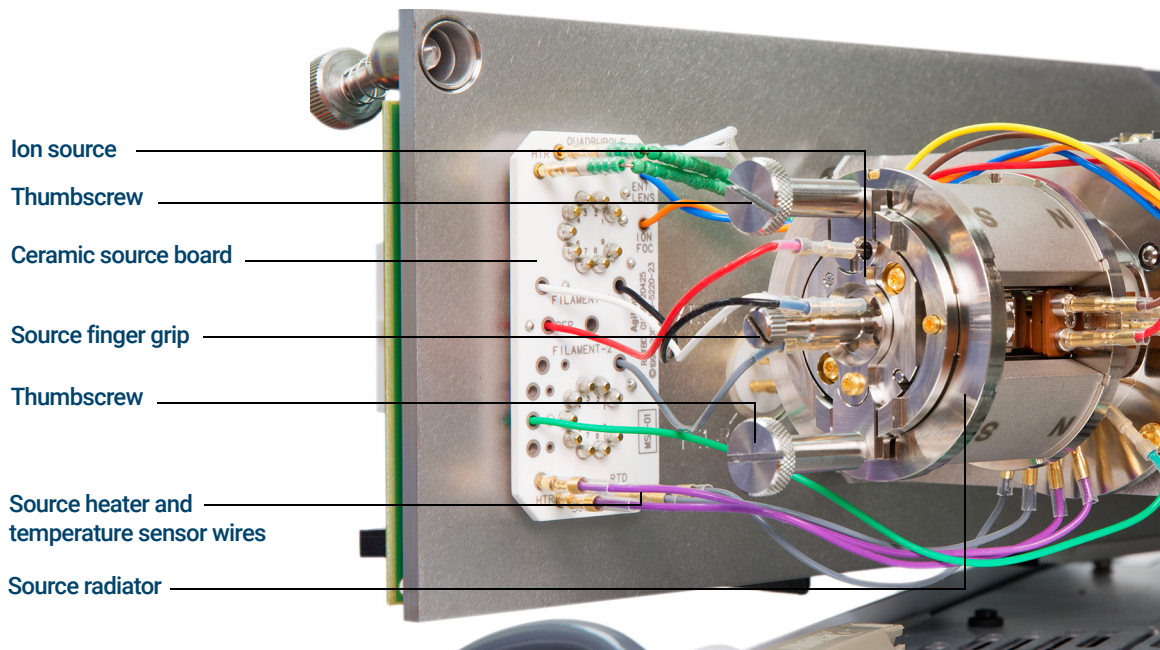

Figure 55 The analyzer chamber for the HES MSD
- 3 Remove the two large thumbscrews that hold the ion source in place. (See **Figure 55** on page 179.)
- 4 Disconnect the wires from the EI HES. (See **Figure 55** on page 179.) Do not bend the wires any more than necessary. (See **“To Connect/Disconnect Wiring to the EI HES”** on page 180.)